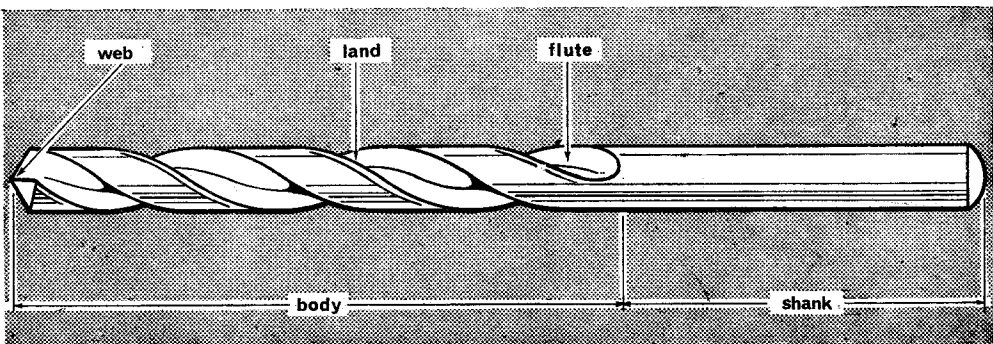

Fig. 1 Twist drill
3. **Twist drills.** These are the most efficient drills for general metal work (Fig1). They are made of high carbon steel or of alloy steel. Alloy steel drills are commonly called 'high-speed drills' because they can be run at high speeds and temperatures without losing their hardness. The spiral fluting presents the cutting edge to the material at the correct angle and clears the swarf formed during the cutting.